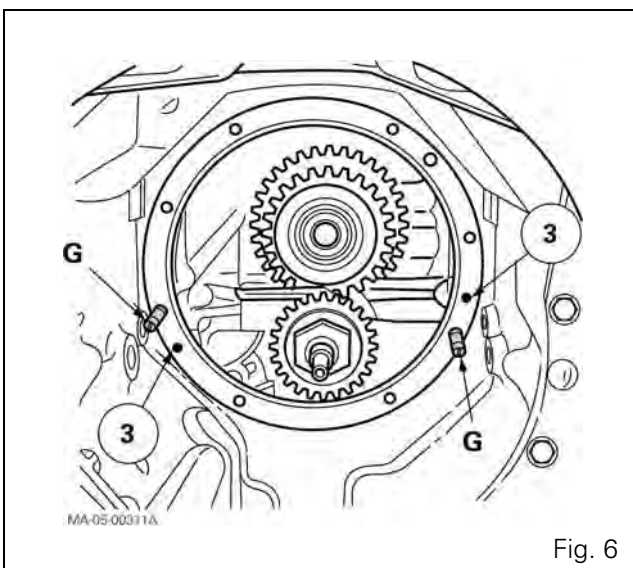

Fig. 6
13. Discard the "O" rings (3) (Fig. 6).
19. On the gearbox housing (Fig. 6) place:
- the new "O" rings (3),